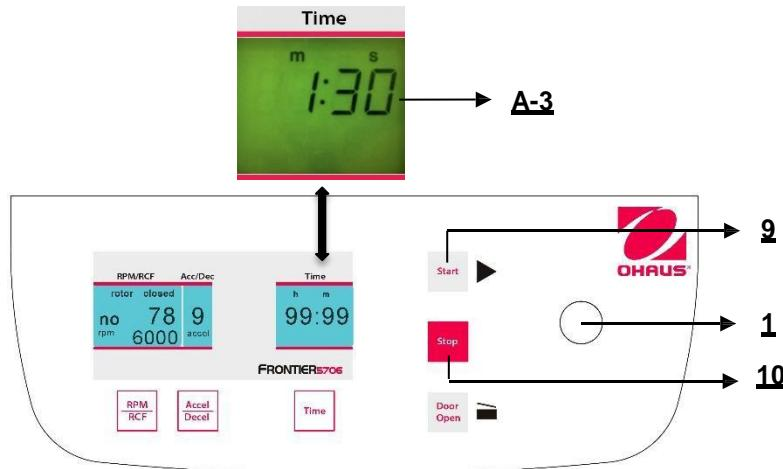

Figure. 22
To start the centrifuge, make sure that the lid is closed and then press the key "Start" (9), (refer to figure 22). With the key "Start" (9) you can start runs with manually pre-selected parameters. When the respective pre-selected running time has ended then the centrifuge will stop automatically or you can interrupt each run with the key "Stop" (10).